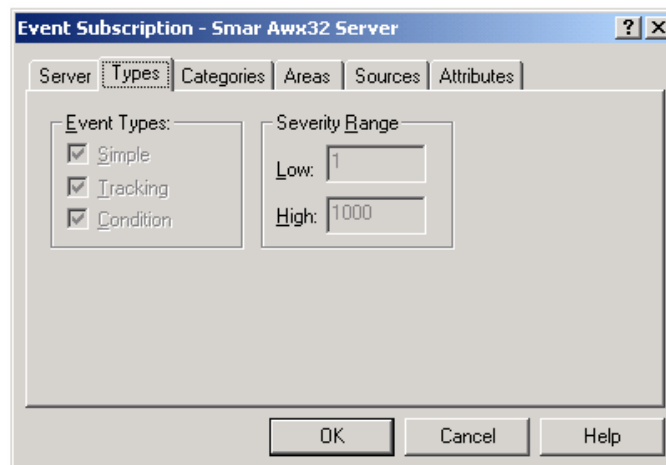

Figure 2.7. Event Subscription Dialog Box: Types Tab
The **Types** tab of the **Event Subscription** dialog box, shown in **Figure 2.7**, allows you to configure which OPC-defined event types each subscription should have, as well as to set the ranges for severity (priority). A value of "0" represents the low severity value, and "1000" represents the high severity value. Please note that OPC Alarm and Event (AE) servers are required to scale severity values to the OPC ranges (i.e. an AE server that contained two severity ranges would convert these to "0" and "1000").